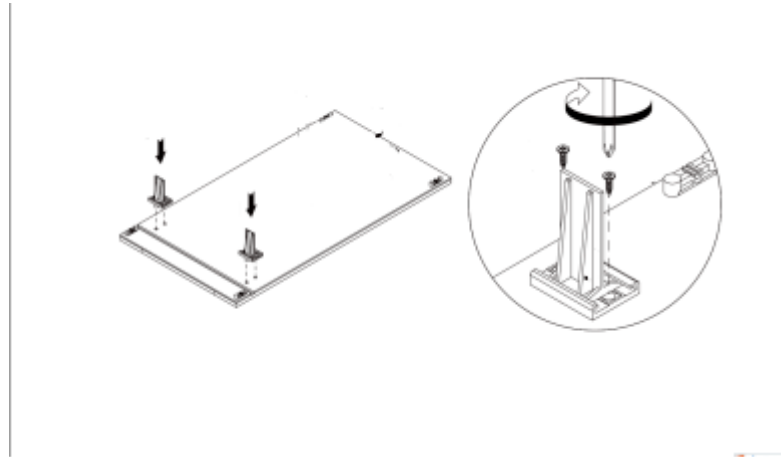

Figure 2
2. Put the holder into the holes (white plastic part), and fix the holder with screws (Figure 2)